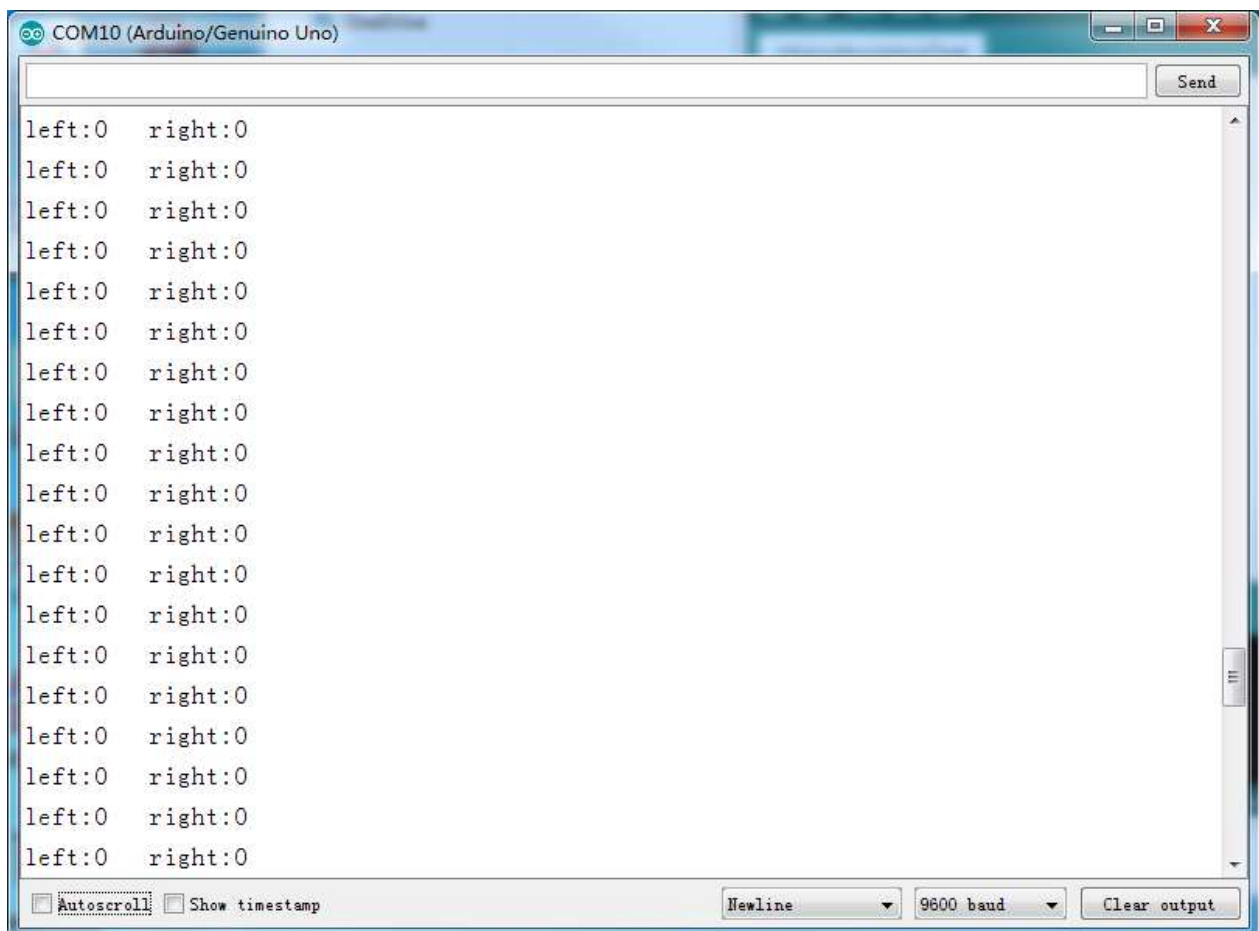
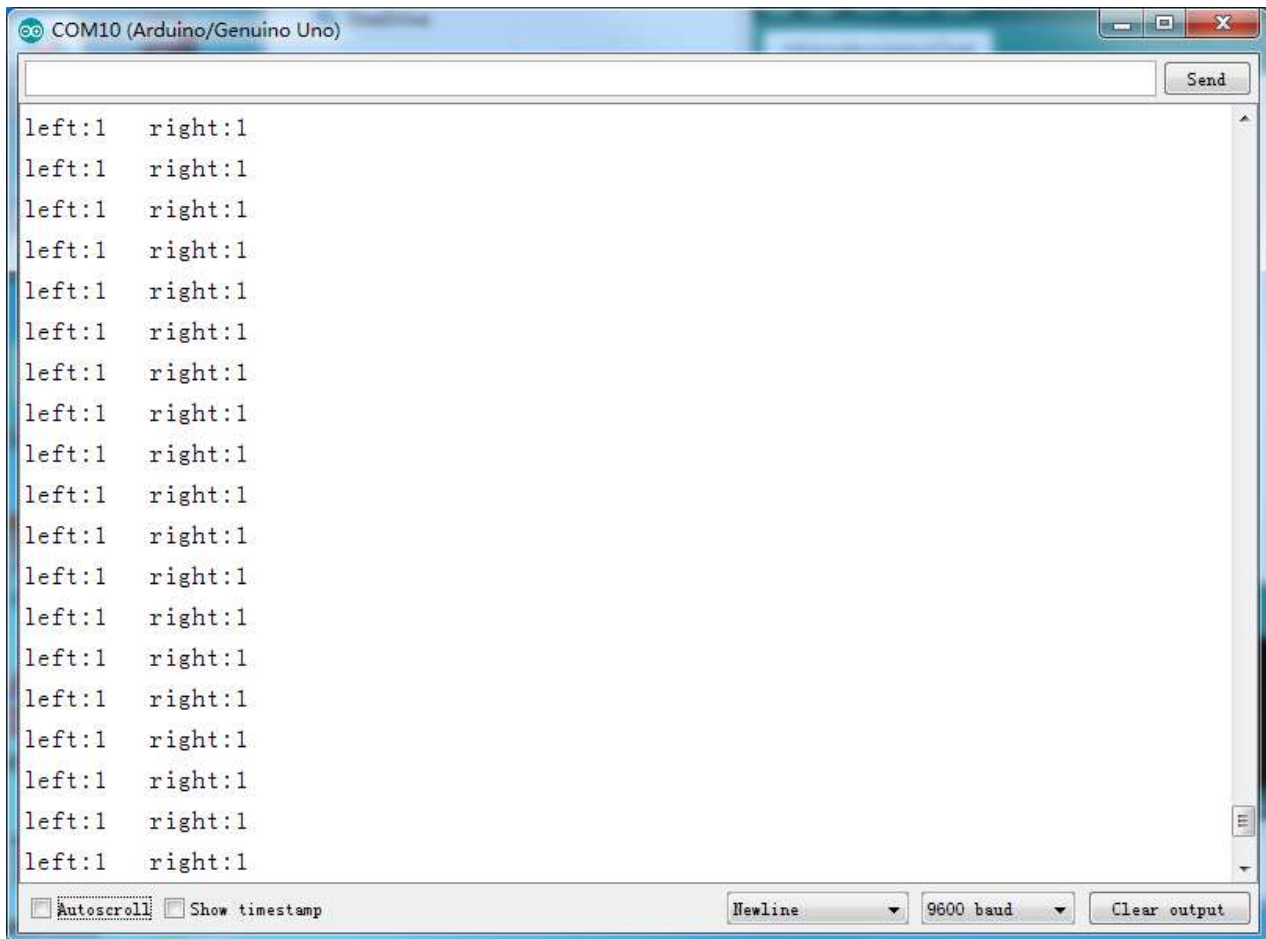

Figure .3.2.14 Diagram of Data with Obstacles
Figure .3.2.15 Diagram of Data without Obstacles
- 3, Module test. Copying the following code to the IDE compiler environment (you can also open the program directly in the CD), downloading it to the development board, opening the serial port monitor (baud rate is 9600) and observing the changes of data when there is an obstacle (Figure 3.2.14) and no obstacle (Figure 3.2.15).